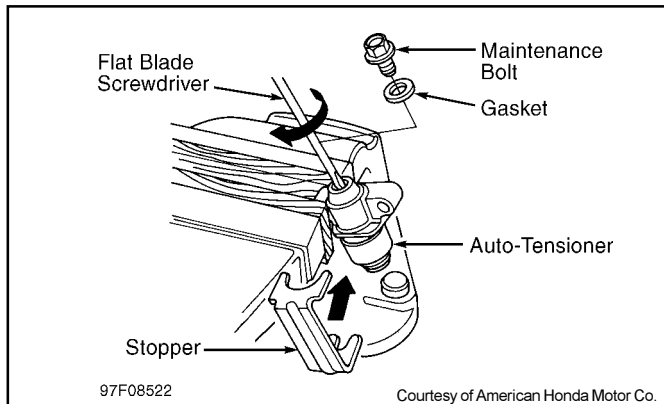

Fig. 4: Compressing Auto-Tensioner
- For auto-tensioner with removeable bolt, hold auto-tensioner with maintenance bolt pointing up. Remove maintenance bolt. See Fig. 4. Clamp auto-tensioner in soft-jawed vise. DO NOT grip auto-tensioner housing. Insert flat blade screwdriver into maintenance hole. Place stopper on auto-tensioner while turning screwdriver clockwise to compress tensioner to bottom.